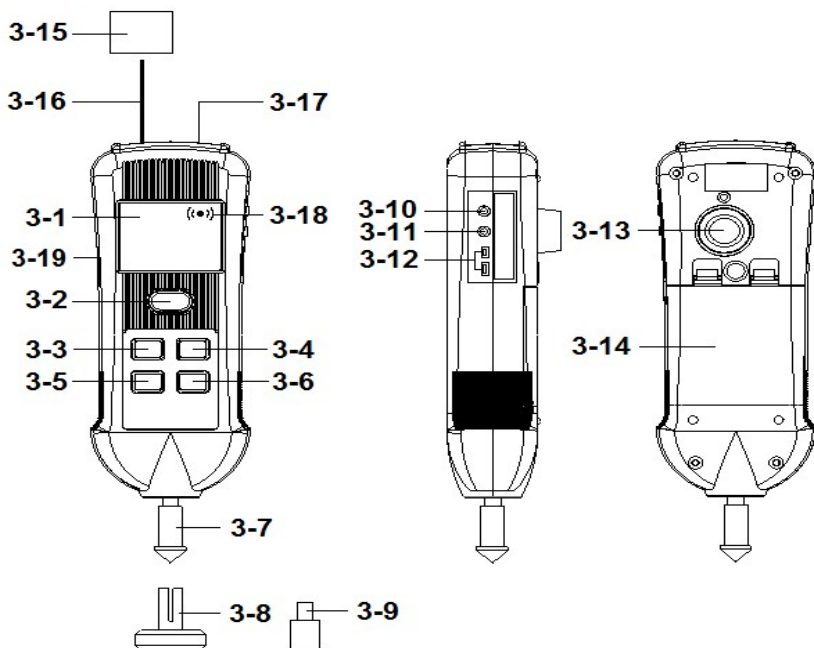

Fig. 1
- 1) Power On the meter by short pressing the " Power button " (3-2, Fig. 1) >1.5 seconds , the LCD will light.
- 2) Press the " Function button " (3-6, Fig. 1) (short push) in sequence until to the " Photo RPM " function be selected, in the same time the " Photo light beam " (3-16, Fig. 1) will be generated.
- 3) Apply a " Reflecting mark " (3-15, Fig. 1) to the object being measured. and align the " Photo light beam " (3-16, Fig. 1) with the applied target. Verify that the " Monitor Indicator " (3-18, Fig. 1) lights when the target pass through the light beam.
- 1) Power On the meter by short pressing the " Power button " (3-2, Fig. 1) >1.5 seconds, the LCD will light.
- 2) Press the " Function button " (3-6, Fig. 1) (short push) in sequence until to the " Contact RPM " function be selected.
- 3) Lightly pressing the " RPM Adapter " (3-7, Fig. 1) against the center hole on the hole of the measured rotating axis.
Making the contact RPM measurement due to different kind measured rotating axis, it may changed the rubber for RPM adapter from " CONE " type to " FUNNEL" type (3-9, Fig. 1)
- 2) Short Press the " Function button " (3-6, Fig. 1) once again and again until lcd display show the " touch " text, then short press the " UNIT Button " to select the Surface Speed Measurement unit m/min , " ft/min " or " in./min.".
- 3) Change the " RPM Adapter " instead of the " Surface Speed Test Wheel " (3-8, Fig. 1)
- 2) Press the " Function button " (3-6, Fig. 1) (short push) in sequence until to the " SCOPE RPM " function be selected, in the same time the " Stroboscope flash light (red) indicator " (3-17, Fig. 1) will be Light.
- 1) Use the " ▲+ button " (3-3, Fig. 1) , " ▼- button " (3-5, Fig. 1) to adjust the exact display value.
- 2) Press the " Function button " (3-6, Fig. 1) (short push) in sequence until to the " TYPE k " function be selected.
- 3) type k probe inserted into the thermocouple probe terminal " thermocouple probe terminal " (3-12, Fig. 1).
- 2) Press the " Function button " (3-6, Fig. 1) (short push) , in sequence until to the " P t " function be selected.
- 3) TP-1000 probes are connected to the Pt 1000 Ω probe terminal " (3-11, Fig. 1) .
- 1) Power On the meter by short pressing the "power button " (3-2, Fig. 1) >1.5 seconds, the LCD will light.
- 2) Use the " Function button " (3-6, Fig. 1)(short push), to select function , until to the " I r " function be selected.
- 3) Press and hold the IR thermometer test button " Power button " (3-2, Fig. 1
- 6) when test value stable then releass the IR thermometer test button " Power button " (3-2, Fig. 1) .
- 1) The data record function records the maximum and minimum readings. Press the " REC Button " (3-4, Fig.1) once to start the Data Record function and there will be a " REC "Symbol indicator " will be light.
- a) Press the " REC Button " (3-4, Fig. 1) once, the " REC and MAX Symbol indicator will be light , and the maximum value will appear on the display.
- b) Press the " REC Button " (3-4, Fig. 1) again, the " REC and MIN " Symbol indicator will be light , and the minimum value will appear on the display.
press the " FUNCTION (SET) Button " (3-6, Fig. 1) continuously at least Five seconds will enter the " Advanced Setting " mode. then press the " FUNCTION (SET) Button " (3-6, Fig. 1) once a while in sequence to select the two main function, the display will show :
- 1) Use the " ▲ button " (3-3, Fig. 1) or " ▼ button " (3-5, Fig. 1) to select the upper text to " yES " or " no ".
- 2) After select the text to " yES " or " no ", press the " REC(Enter) Button " (3-4, Fig.1) will save the setting function with default.
- 1) Use the " ▲ button " (3-3, Fig. 1) or " ▼ button " (3-5, Fig. 1) to select the upper Display text to " C " or " F ".
- 2) After Display unit is selected to " C " or " F ", press the " REC(Enter) Button " (3-4, Fig.1) will save the setting function with default.